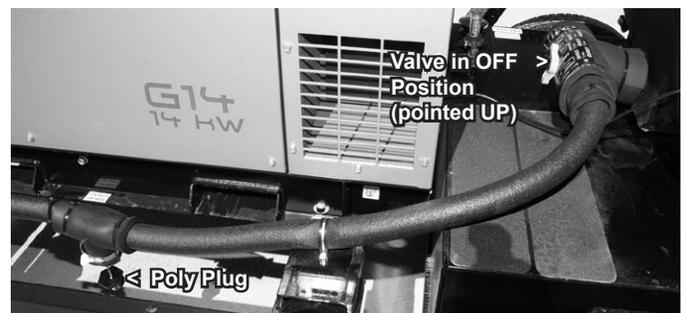

Figure C23
3. With the pump supply hose disconnected at the swivel, remove the poly plug and brass cap from the tank plumbing as shown in Figures C23 and C24. The water in the supply line will gravity flow out of the line.